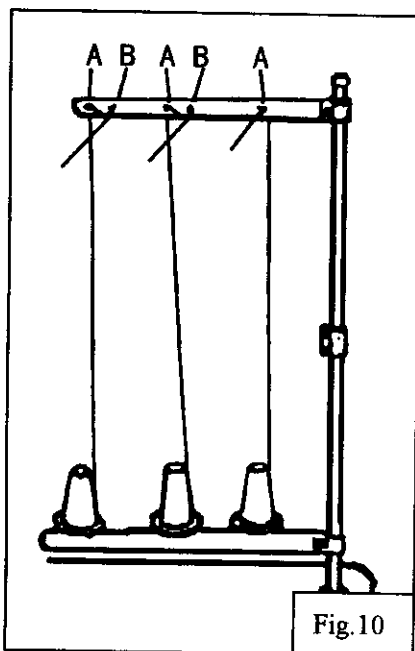
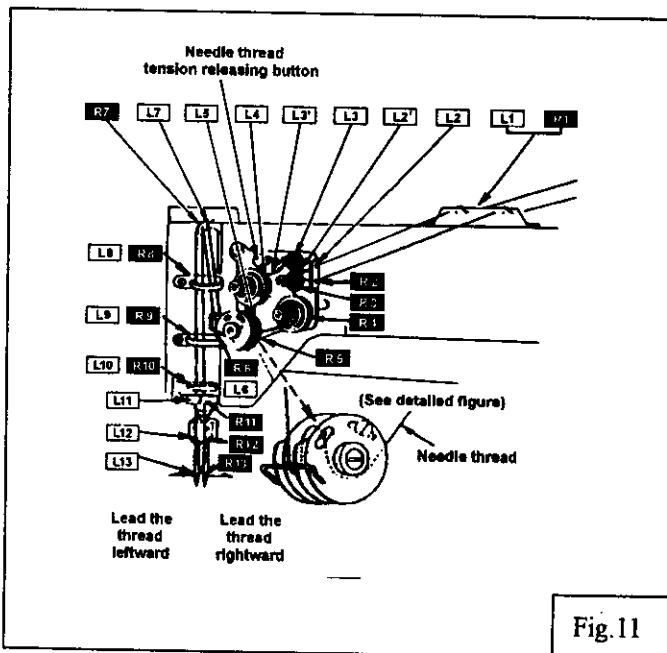

Fig.10
Fig.11
4) How to route the upper thread (Fig.10, Fig.11):
Note: when thin slippery thread (polyester thread for example) is used pass the thread through thread guide B as show in Fig.10
B With the take-up lever located at the upper most position, pass each thread in the order in Fig. 11.